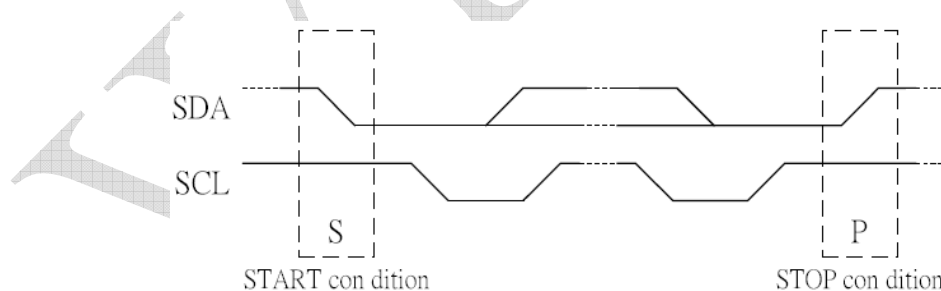

Fig.2 Start and Stop conditions
Both data and clock lines remain HIGH when the bus is not busy. A HIGH-to-LOW transition of the data line, while the clock is HIGH is defined as the START condition (S). A LOW-to-HIGH transition of the data line while the clock is HIGH is defined as the STOP condition (P). The START and STOP conditions are illustrated in Fig.2.